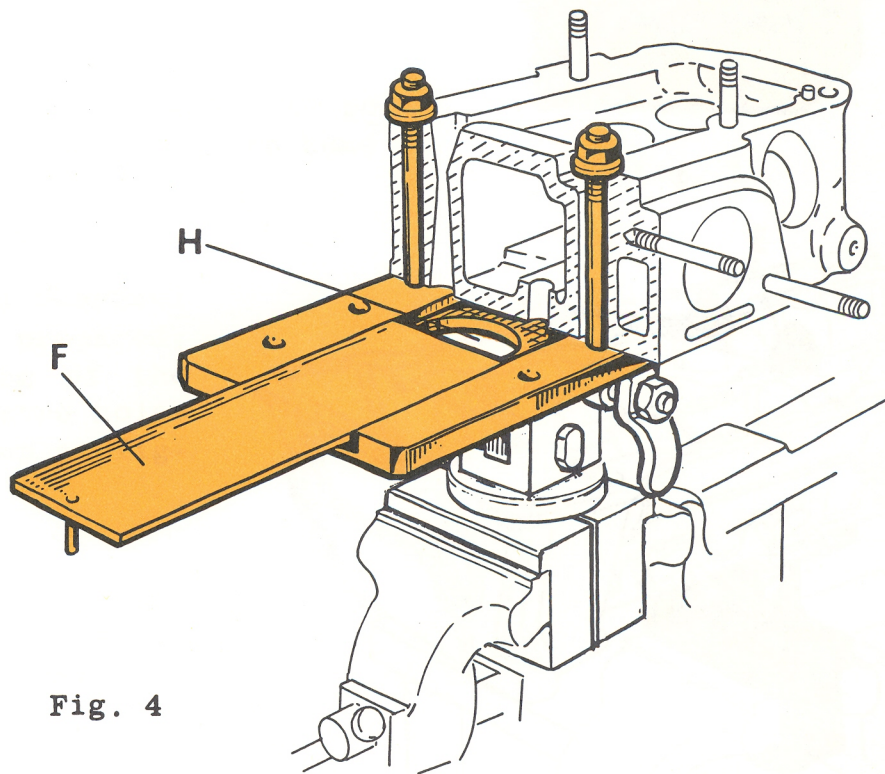

Fig. 4
- 6 For overhauling the cylinder head of the Alfasud model, the tool A.2.0226 should be used (See figure 4).
- 7 To remove the valves slide out the plate "F" and just withdraw the valves from the bottom through the opening "H" without removing the head from the tool (See fig. 4).